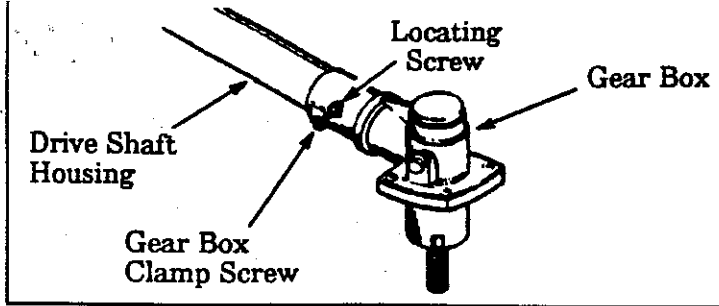

Figure 32
1. Remove the Gear Box Clamp Screw and the Locating Screw from the Gear Box. Figure 32.
2. Remove the Gear Box from the Drive Shaft Housing. Figure 32.